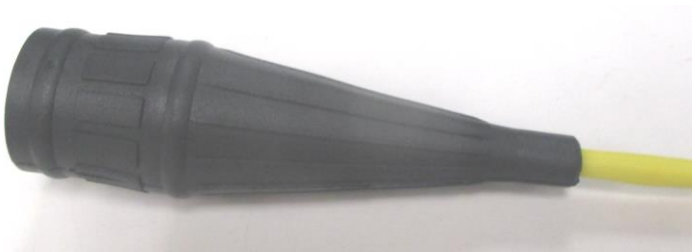

Figure 7
7. Once the epoxy has fully cured, slide the Viton boot over the connector insert and backshell as seen below in Figure 7.